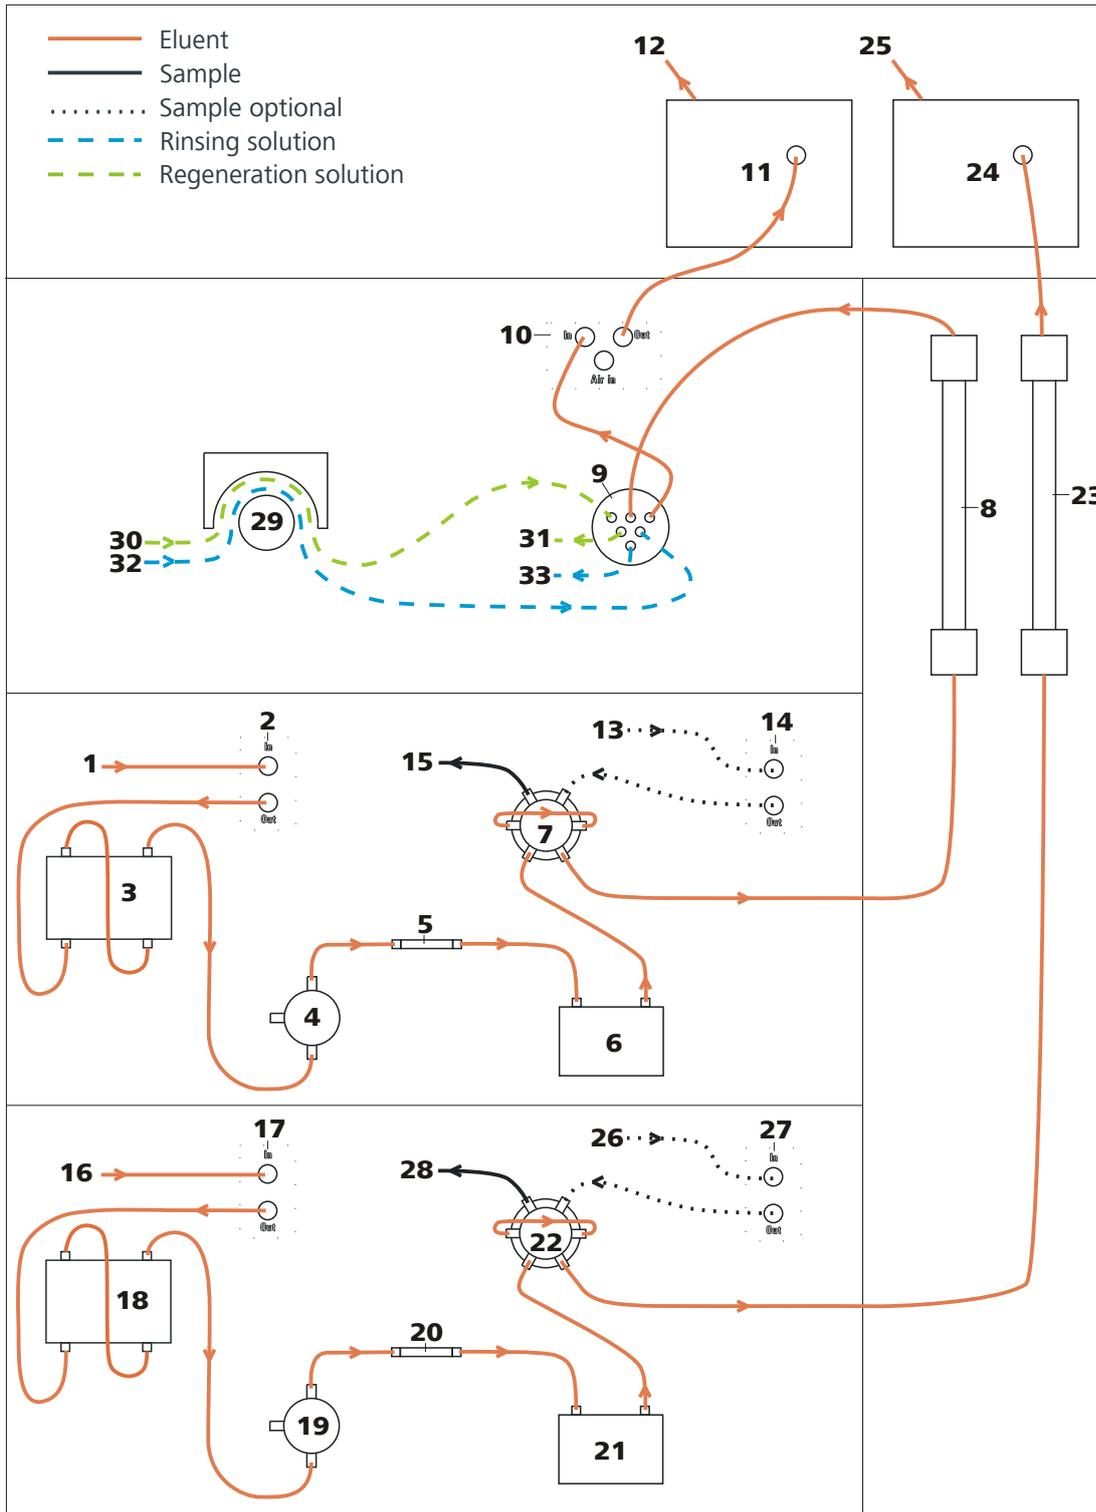

Figure 2 Flow diagram for a 2-channel system
*Figure 2 Flow diagram for a 2-channel system shows the flow paths for a system with one cation channel and one anion channel with application of sequential suppression (MSM (2-9) and MCS (2-10)):*